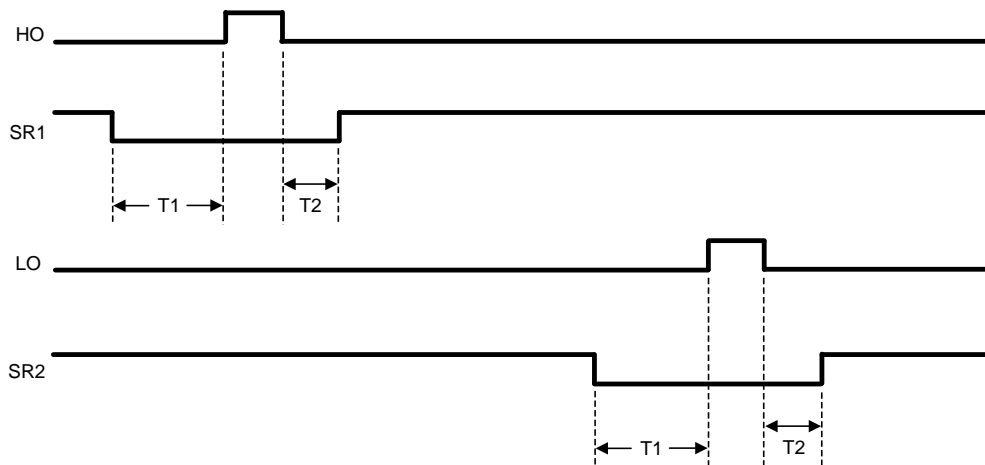

Figure 17. HO, LO, SR1 and SR2 Timing Diagram
Synchronous rectification (SR) of the transformer secondary provides higher efficiency, especially for low output voltage converters. The reduction of rectifier forward voltage drop (0.5V - 1.5V) to 10mV - 200mV V_{DS} voltage for a MOSFET significantly reduces rectification losses. In a typical application, the transformer secondary winding is center tapped, with the output power inductor in series with the center tap. The SR MOSFETs provide the ground path for the energized secondary winding and the inductor current. Figure 17 shows that the SR2 MOSFET is conducting while HO enables power transfer from the primary. The SR1 MOSFET must be disabled during this period since the secondary winding connected to the SR1 MOSFET drain is twice the voltage of the center tap. At the conclusion of the HO pulse, the inductor current continues to flow through the SR1 MOSFET body diode. Since the body diode causes more loss than the SR MOSFET, efficiency can be improved by minimizing the T2 period while maintaining sufficient timing margin over all conditions (component tolerances, etc.) to prevent shoot-through current. When LO enables power transfer from the primary, the SR1 MOSFET is enabled and the SR2 MOSFET is off.
The timing of SR1 and SR2 with respect to HO and LO is shown in Figure 17. SR1 is configured out of phase with HO and SR2 is configured out of phase with LO. The deadtime between transitions is programmable by a resistor connected from the DLY pin to the AGND pin. Typically, R_{DLY} is set in the range of 10kΩ to 100kΩ. The deadtime periods can be calculated using the following formulae:
The R_{DLY} resistor programs the delays between the SR1 and SR2 signals and the HO and LO driver outputs. Figure 17 shows the relationship between these outputs. The DLY pin is nominally set at 2.5V and the current is sensed through R_{DLY} to ground. This current is used to adjust the amount of deadtime before the HO and LO pulse (T1) and after the HO and LO pulse (T2). Typically R_{DLY} is in the range of 10kΩ to 100kΩ. The deadtime periods can be calculated using the following formulae: